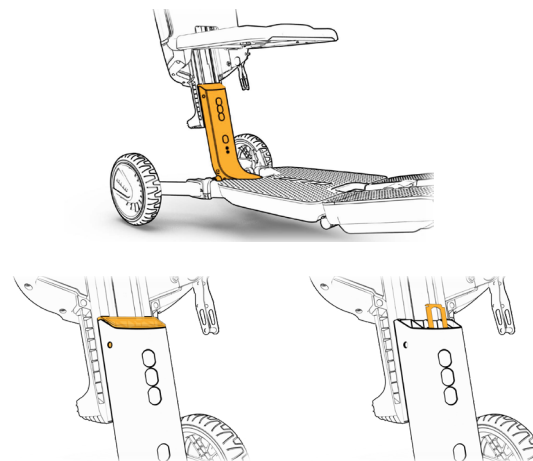

Figure 24 Seat height cover
1. ATTO must be in opened position in order to adjust seat height. Lift the seat to an upright position, locate the seat height adjustment cover, which is at the base of seat right under the seat pivots, and remove it by pressing on 2 side spots with a screwdriver (see Figure 24, Step 1).
2. Under the cover you will find a metal bracket that has to be removed. Hold the bracket between your fingers and lift it out. Remember the bracket position to make it easier to put it back in place again (see Figure 24, Step 2).